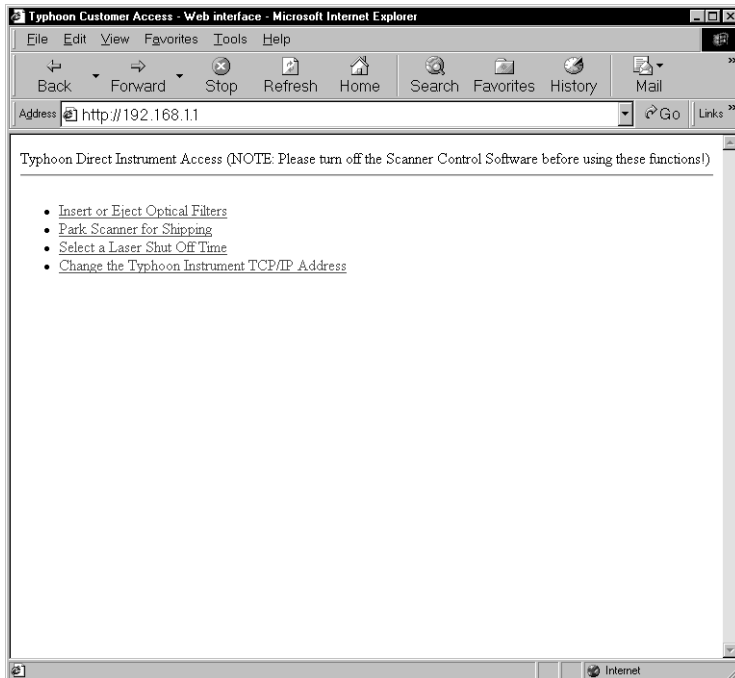

Fig 13-1. The Typhoon Direct Instrument Access window.
- 4 Click **Go**. The Typhoon Direct Instrument Access window appears in the browser window (fig 13-1).